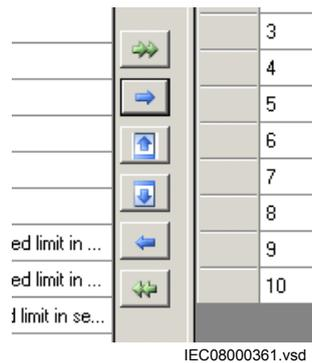

Figure 64: CMT: Move buttons
3. Press the green double arrow button to insert all signals into the configuration, see Figure 64.